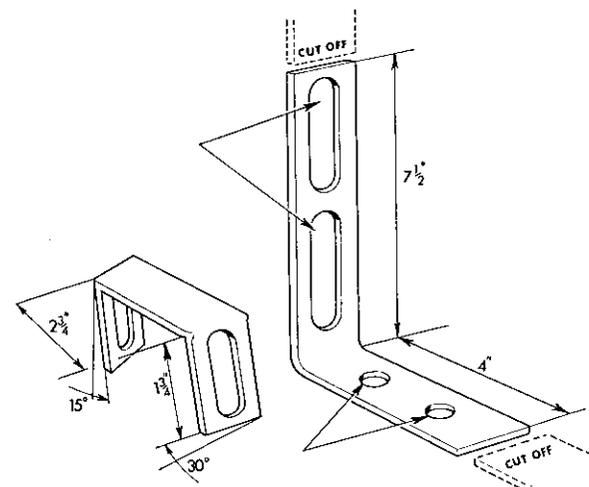

Fig. 26. Details of power stop mounting brackets
1. Shape the brackets as shown on Fig. 26, taking care to keep the mounting faces flat.